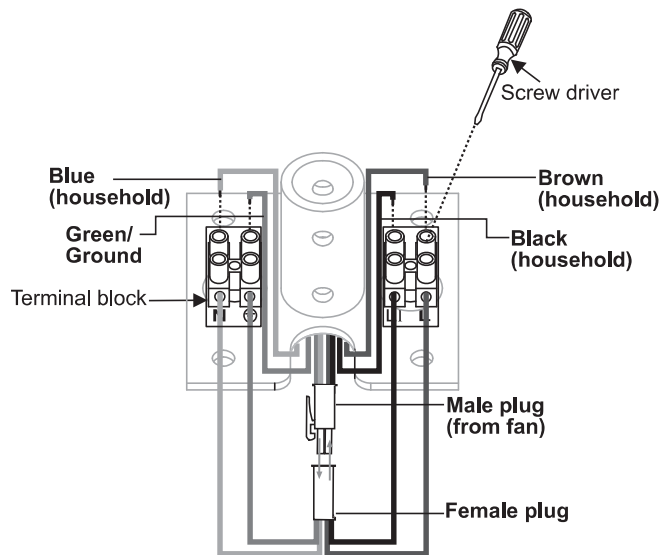

Figure 4
Tighten the screws on the terminal block with screw driver to avoid the wires loose. (Fig. 4 and 5)
5. Be sure to snap together the male and female plugs. (Fig. 4)